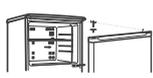

Figure 2
- Reinstall the hinge supports to the other side (Fig. 2).